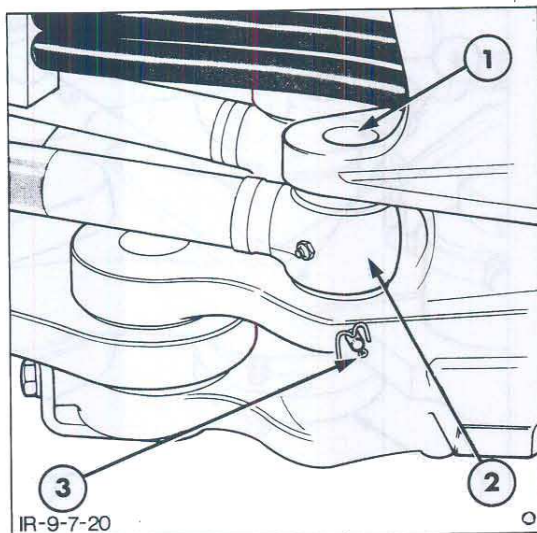

Figure 18
4. Remove the cotter pins from the rod end pin retainer and drive out the pin. Note that this pin retains both cylinder rod pins, Figure 18.